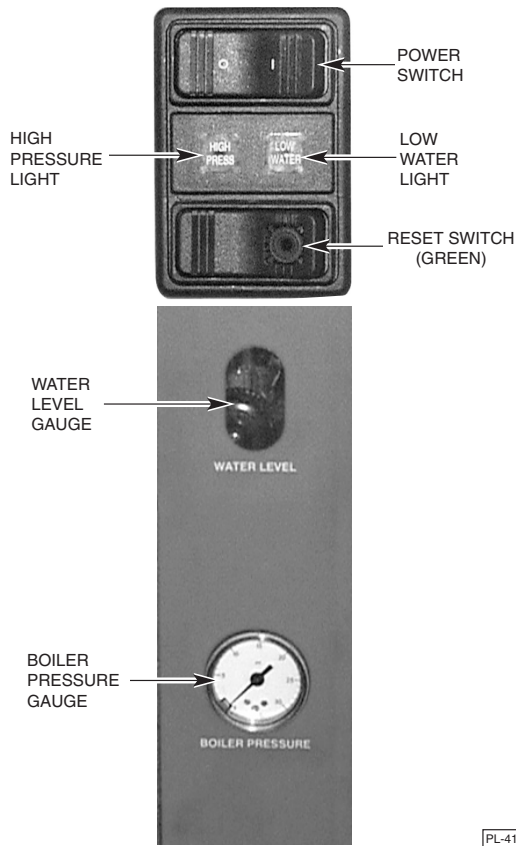

Fig. 2
3. Locate the boiler power switch and press [ I ] to start. Two amber indicator lights (low water and high pressure) will light as water fills the boiler. After about 4 to 5 minutes, the water will reach the required level in the boiler and the green indicator light on the reset switch will light. Refer to Fig. 2, page 16.
- Gas pilot pressure dropping more than 0.25" W.C. indicates an insufficient supply. Larger diameter (ID) gas supply piping to the steamer must be used.
19. Press [ O ] on the power switch on the boiler (Fig. 2) to turn the steamer off. The indicator lights are not lit. The boiler will automatically blow down.
## BOILER CONTROLS — GAS (Figs. 2, 3) or ELECTRIC (Figs. 2, 4)
1. Press [ O ] on the boiler power switch (Fig. 2).